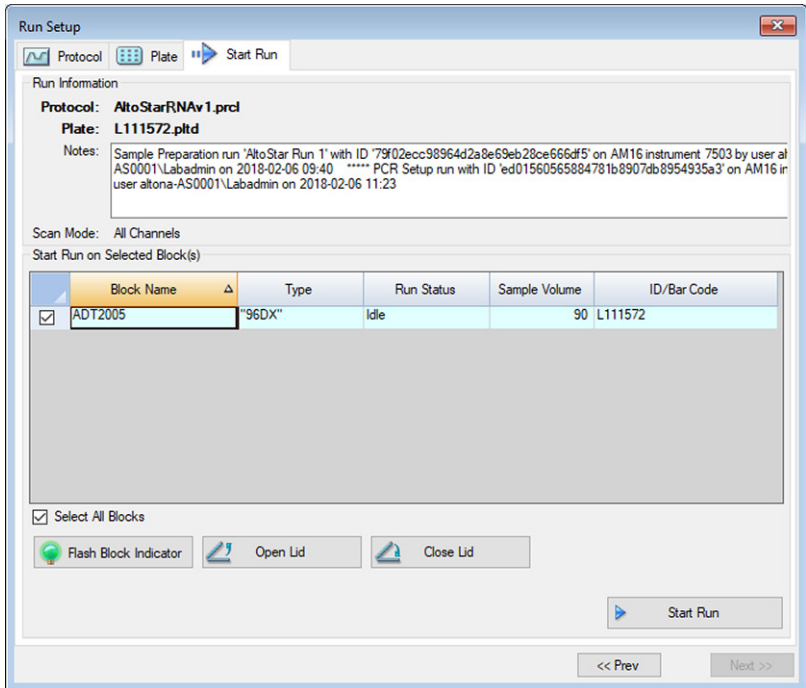

Figure 27: Run Setup dialog
5. Scan the PCR Plate barcode with the handheld barcode scanner to automatically select and open the correct LIMS file. The **Run Setup** dialog is displayed (see Figure 27).
6. Click **Open Lid** to open the lid of the CFX96™ DW Dx (see Figure 27).
9. Close the CFX96™ DW Dx by clicking the **Close Lid** button in the **Run Setup** dialog (see Figure 27).
10. Start the PCR Run by clicking the **Start Run** button in the **Run Setup** dialog (see Figure 27).